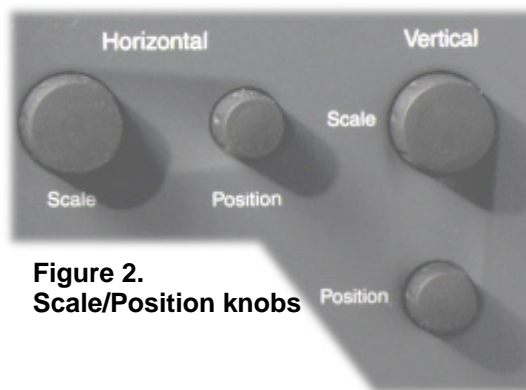

Figure 2.
- Use the “Scale” and “Position” knobs on the front panel to place the waveform vertically and horizontally (see Figure 2). These values can be manually selected in the **Channel Setup** menu.